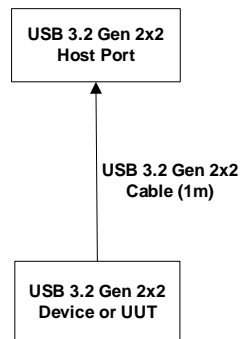

Figure 13-1: Host/Device USB 3.2 Gen 2x2 Interoperability at Root Port
- Connect one Device (USB 3.2 Gen 2x2 Device or DUT) at root port of the USB 3.2 Gen 2x2 Host Port (see Figure 13-1)